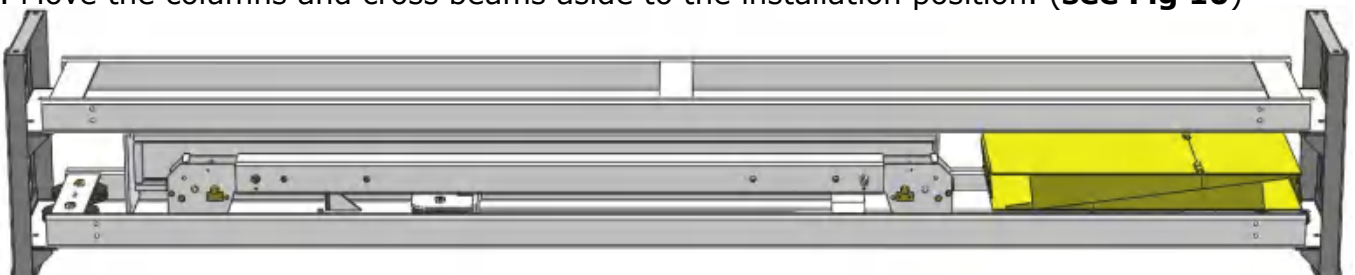

Fig. 10
3. Move the columns and cross beams aside to the installation position. **(see Fig 10)**